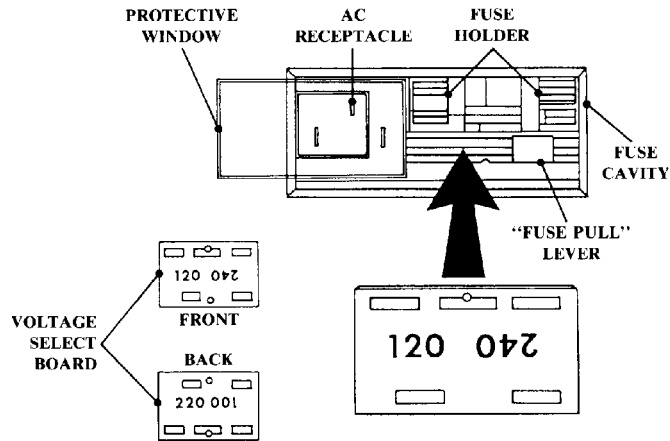

Figure 3-2.
3. Slide the protective window to the left (see Figure 3-2).
5. Pull the voltage select board, which is located inside the fuse cavity below the fuse holder, out from the fuse cavity. As shown in Figure 3-2, one side of the voltage select board has the numbers "120" and "240" printed on it, and the other side has the numbers "220" and "100." The numbers indicate the operating voltage of 120, 240, 220, and 100 Vac. Hold the board in your hand so the number that reflects the desired operating voltage ("100," "120," "220," or "240") appears upright on the left side of the voltage select board. (The other number will appear upside down.) While holding the board in this position, slide it back into its place inside the fuse cavity (see Figure 3-2). The number that indicates the operating voltage will now be visible from the outside of the fuse cavity window.